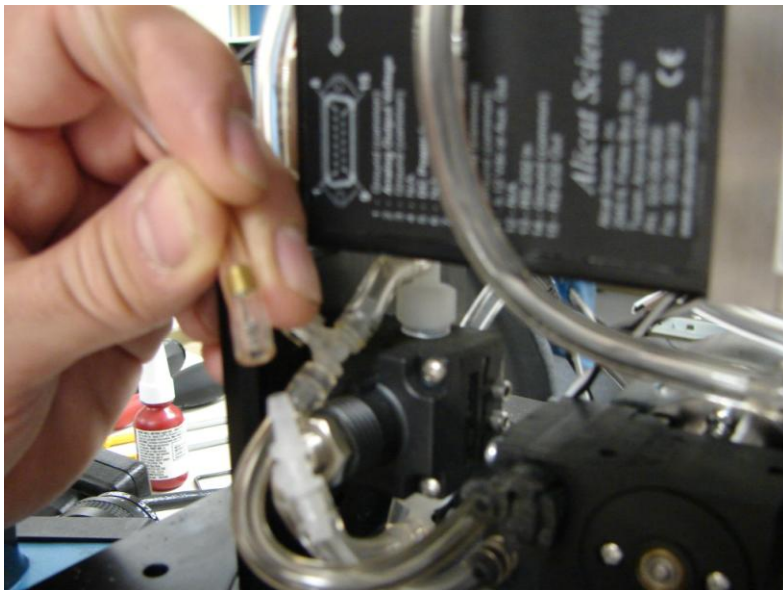

Figure 20: Opening the Exhaust Line
- 4.) Open the tubing at the joint in the exhaust line (see Figure 20). Opening the line creates positive pressure in the block and helps keep out contamination.